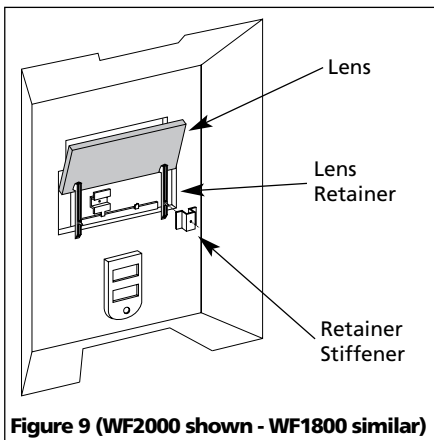

Figure 9 (WF2000 shown - WF1800 similar)
- Attach the stiffeners over the pins on the lens retainers (See Figure 9).